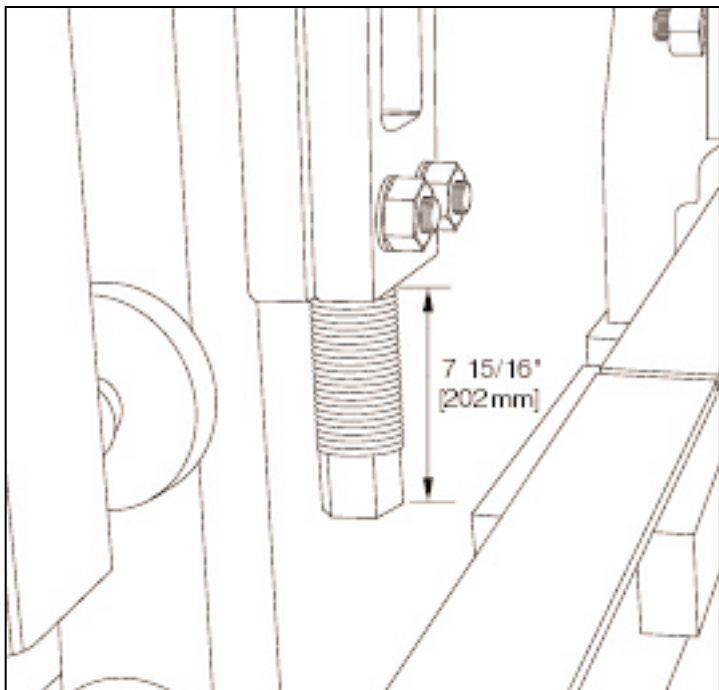

Figure 4.13 UPPER HEIGHT STOPS.
4.1.6 Adjust the upper height stops so that **7 15/16"** **[202mm]** extends past the bottom of the castings as shown on figure 4.13.